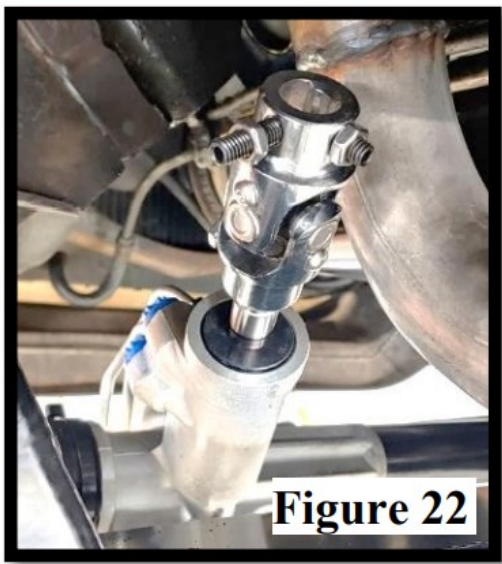

Figure 22
40. Install the splined end u-joint onto the steering rack with the allen screws lightly set. **(Figure 22)** The u-joints that complete the steering shaft need to be in phase. **(Figure 23)** Rotate the joints as needed before final installation.